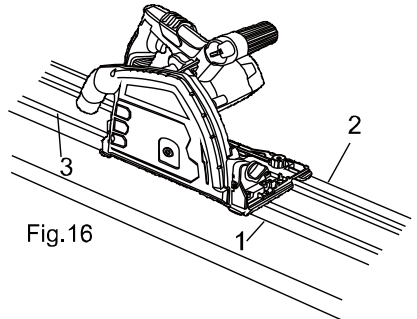

Fig.16
6. Place the saw on the guide track, the rear cover of the saw near the alignment marks (2), the blade near the cutting line (1). The track features two low friction strips (3) to allow smooth movement of the saw along the track. (Fig.16)